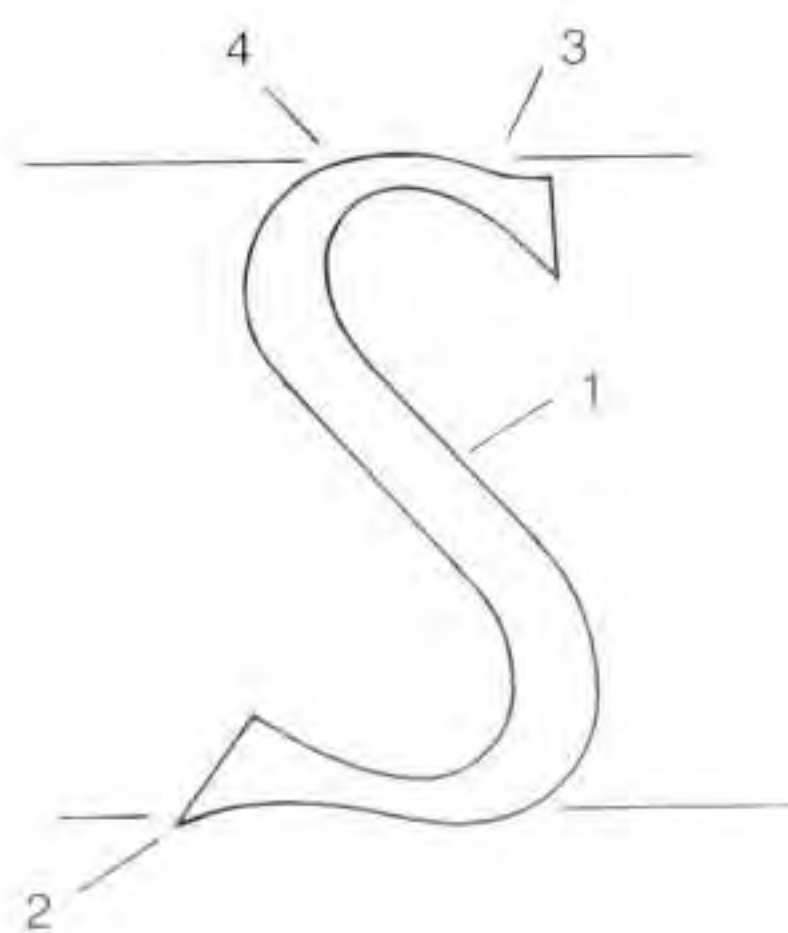

Fig 6.20 Features of the letter *S*.
See Fig 6.20. In the exercises, the central section of **S** was somewhat straight for ease of cutting, although this 'straightness' should hardly be apparent (1). A continuous curve is of course an alternative. In this case, make an initial straight central section as before, but smaller (having more a function of a stop cut), which will be ultimately subsumed into the curved trenches.